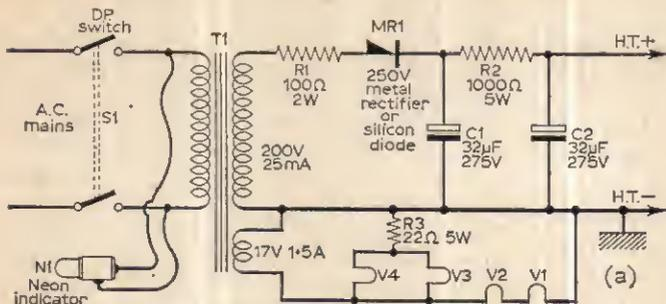
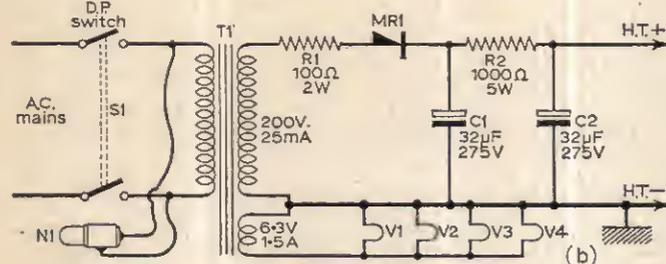

Fig. 3a—Power supply for turret tuners having series heaters.
Fig. 3b—Circuit arrangements for turrets with parallel heaters.
to your a.f. amplifier. A simple power supply unit is required. For series-connected heaters use the arrangement shown in Fig. 3a, for parallel heaters use the arrangement shown in Fig. 3b.
**COMPONENTS LIST FOR POWER SUPPLY UNIT (Fig. 3a and 3b)**
- R3 22Ω 5W (Fig. 3a only)
- T1 Mains transformer. Secondaries: 250V 25mA; 6.3V 1.5A (Fig. 3a) or 17V, 1.5A (Fig. 3b)